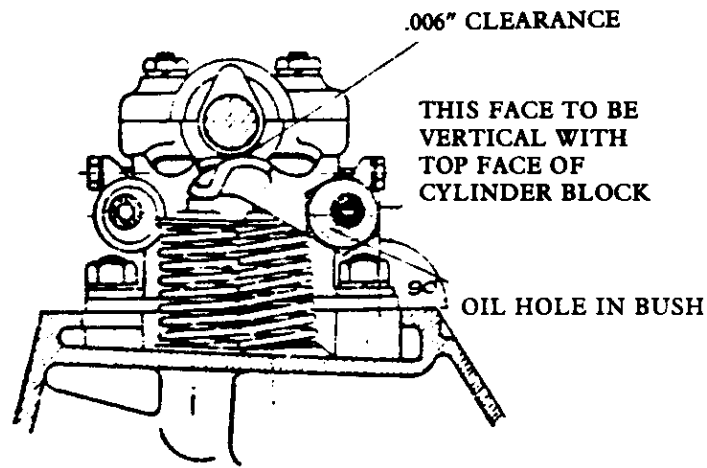
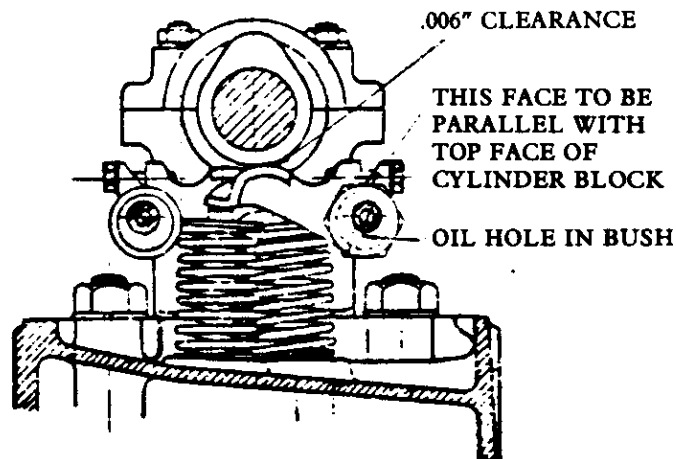

FIG. 1
FIG. 2
1. Set the rocker eccentric bush in the position shown in Fig. 1 for the J. Type and that as shown in Fig. 2 for the K., L., PA., N., KN. and PB. Type models.